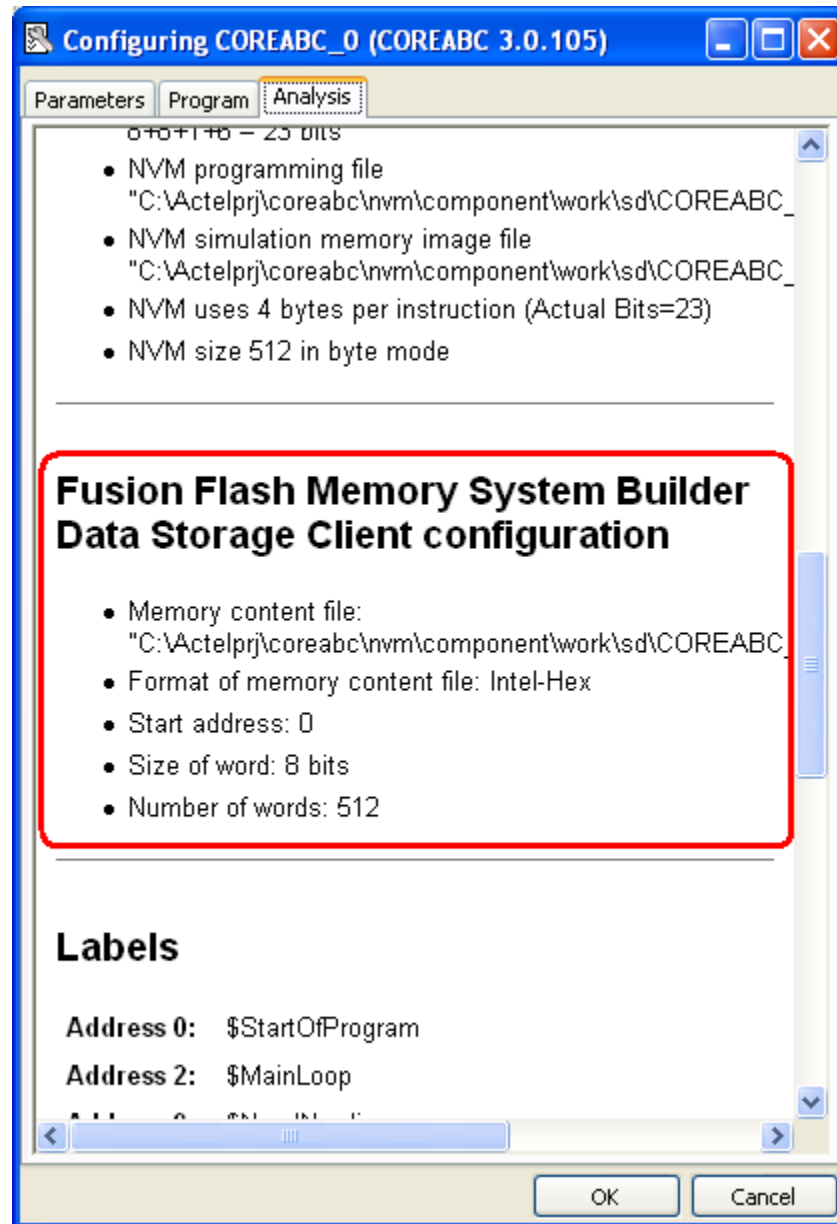

Figure 7-10 • Analysis View
- The CoreABC configurator Analysis view note (Figure 7-10) shows the configuration details which will be needed when configuring a Fusion Flash Memory System Builder Data Storage Client.